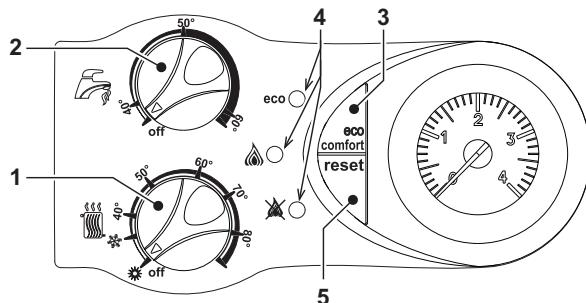

fig. 1 - Control panel
If the burners do not light and the "block" indicator (ref. 4 - fig. 1) comes on, press the RESET button. The control unit will repeat the ignition cycle in the next 30 seconds. If the burners do not light after the third attempt, refer to sec. 4.4.